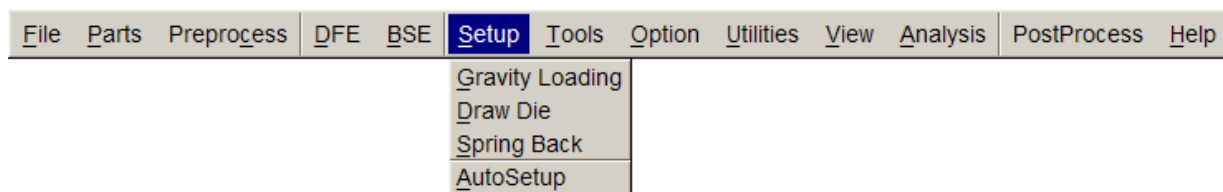

Figure 48: Setup menu
- Select **Setup** → **Draw Die** illustrated in Figure 48 to display the QuickSetup GUI.